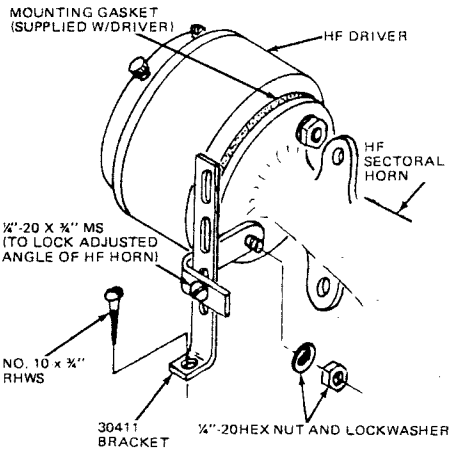

Figure 5. HF Driver and Horn Assembly
toral horn as shown, using two 1/4"-20 hex nuts and lockwashers. Make sure horn mounting gasket is not damaged. Assemble two parts of 30411 Horn Mounting Bracket together, using 1/4"-20 x 3/4" machine screw, lockwasher, and nut as shown in Figure 5. Do not tighten.
- Install 30411 bracket on 828B cabinet with a No. 10 x 3/4" round-head wood screw (see Figure 5).